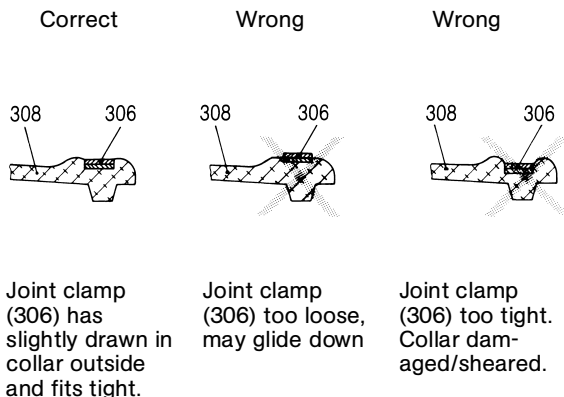

Figure 10: Clamping of joint clamps.
Note: Proper clamping of the joint clamps (306) is shown in Figure 10.